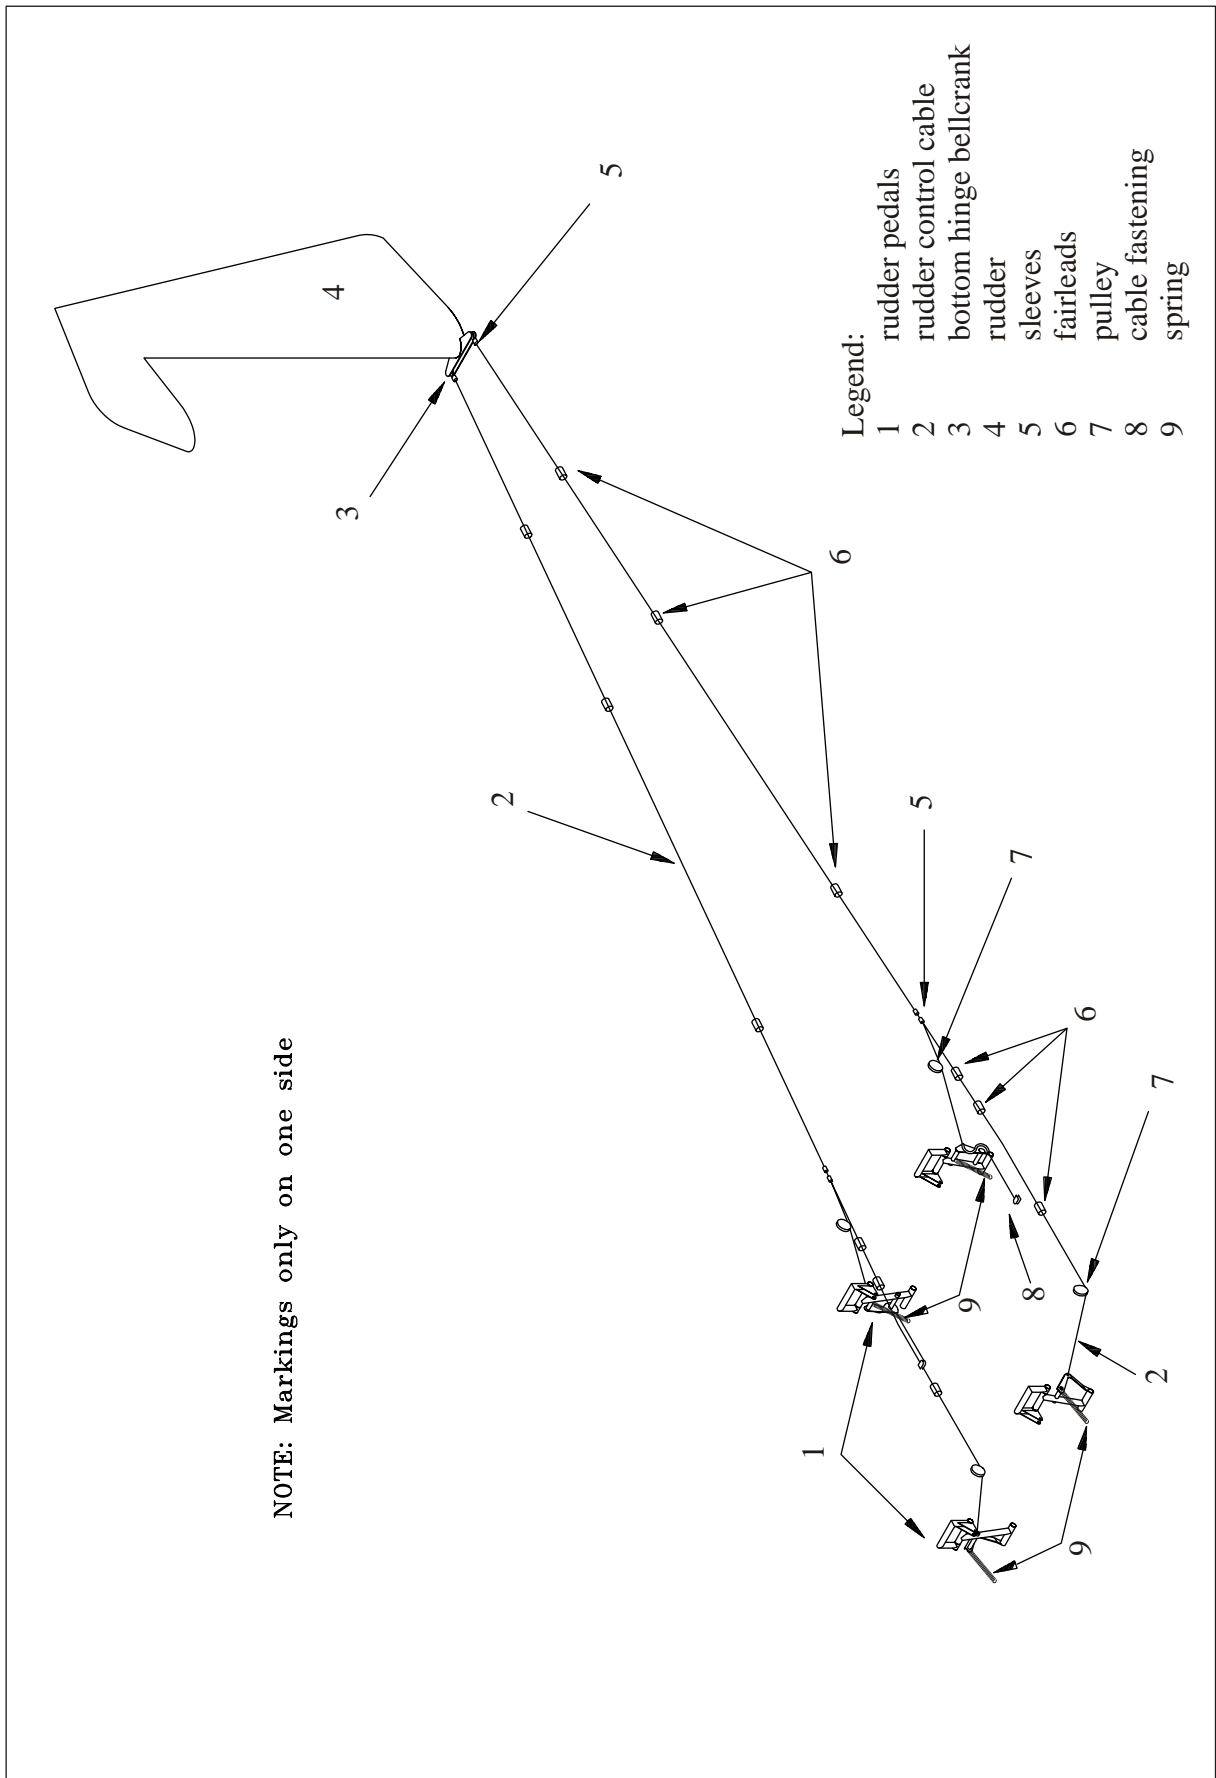
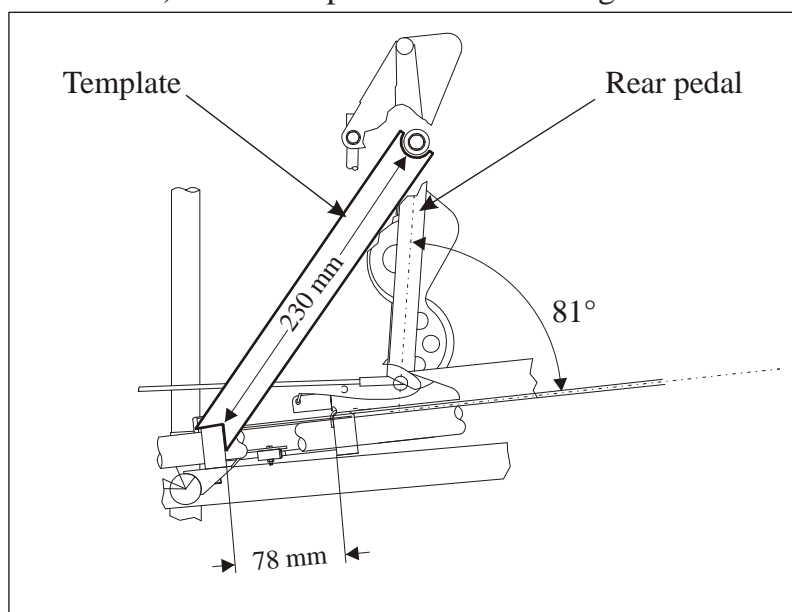

Figure 14
Figure 15 *Rear Pedal Position and Template*
(Refer to Figure 14) The rudder pedals (1) are connected via a cable system (2) to the bottom hinge bellcrank (3). The cables are guided by fairleads (6). Springs (9) keep the cables under tension when they are not operated. The rear pedals are electrically adjustable. The rudder (4) is mounted at three points in spherical bearings pressed into an aluminium hinge resp. into aluminium hinge arms. For lightning protection reasons each hinge (arm) is grounded to the corresponding attachment bracket at the rudder by bonding leads. A travel stop plate is located at the bottom hinge bracket. A second safety stop is located at the rudder pedal bearing having the only purpose of protecting the lower brake system fitting in case of rudder cable failure.
- 2 Secure the rudder (4, Figure 14) in 0°-position.
- 3 Mount the pre-assembled eye end of the longer control cable to the LH cable fastening (8).
- 5 Thread the cable through the "S"-shaped tube at the pedal and the pulley (7).
- 6 Adjust rear rudder pedals (1) in rearmost position.
- 8 Slip 2 NICOPRESS (National Telephone Supply Co., Cleveland Ohio) 18-3-M or 28-3-M sleeves (5) and 100 mm 771095 shrinking sleeve on the control cable.
- 9 Thread the free end of the control cable through the rear fairleads (6) and the hole in the fabric to the tail.
- 12 Fix rear pedals in almost vertical position (81° relative to the footrest). Use a template as shown in Figure 15.